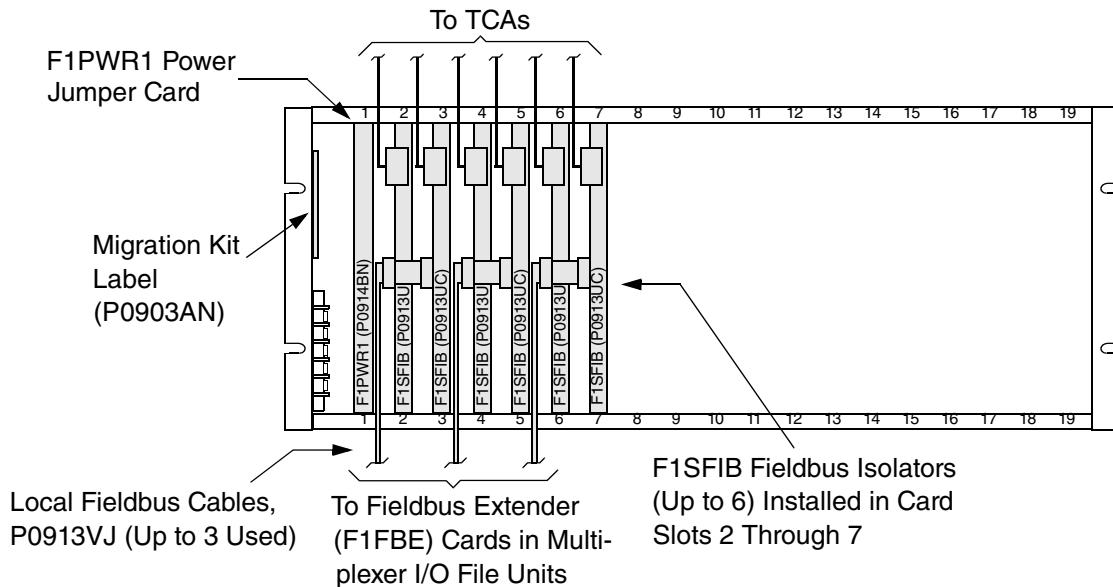

Figure 4-41. MCU, New Card Complement
2. Install the migration kit label, P0903AN, in the approximate position shown in Figure 4-41.
3. Install Power Jumper card F1PWR1 (P0914BN) in slot 1 of the MCU (see Figure 4-41).
4. Install the F1SFIB Fieldbus Isolator(s), using card slots 2 through 7 (see Figure 4-41).
5. Attach the Local Fieldbus cable(s) (P0913VJ) to the F1SFIB Fieldbus Isolator(s), as shown in Figure 4-27 and Figure 4-41.
6. Connect the TCA cable(s) to the F1SFIB Fieldbus Isolator(s) as shown in Figure 4-27 and Figure 4-41.